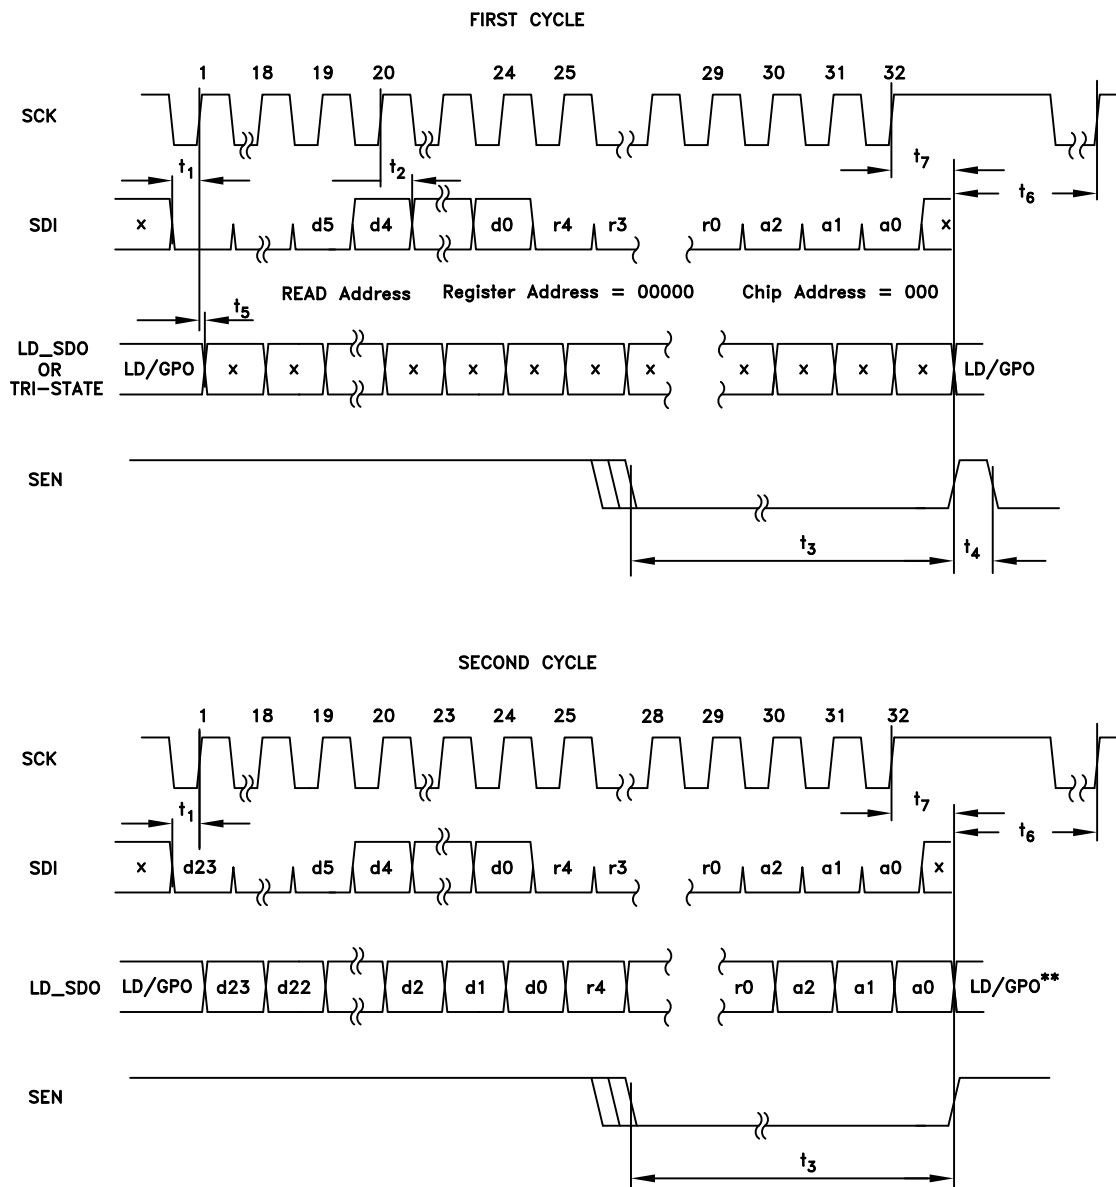

Figure 49. Serial Port Timing Diagram - READ
A typical READ cycle is shown in Figure 49.
- a. The Master (host), on the first 24 falling edges of SCLK places 24-bit data, d23:d0, MSB first, on SDI as shown in Figure 49. d23:d5 should be set to zero. d4:d0 = address of the register to be READ on the next cycle.